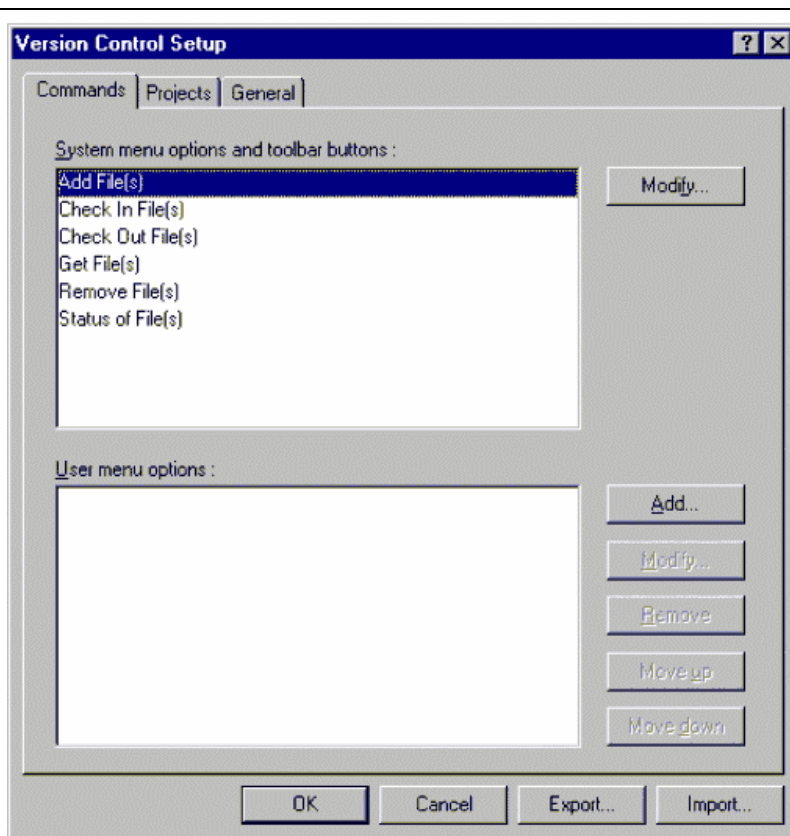
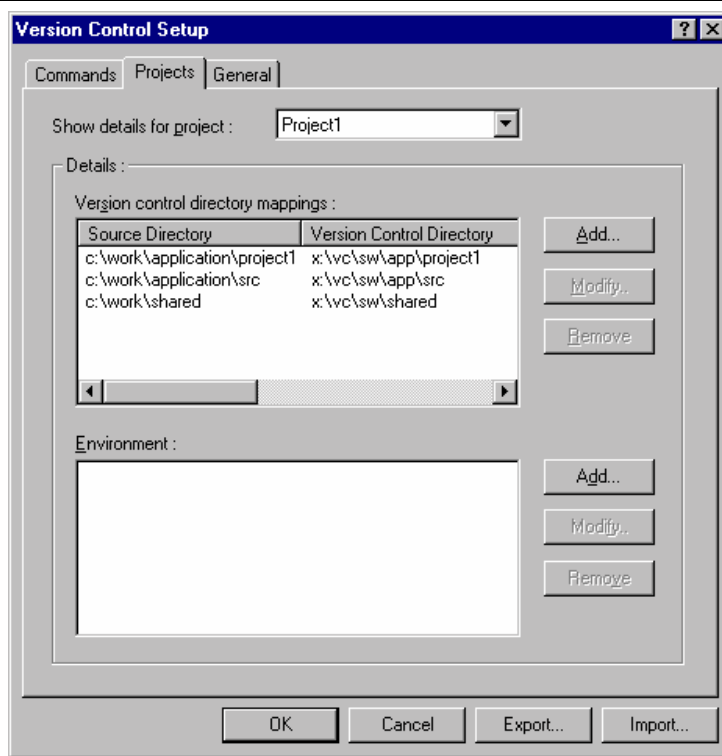

Figure 8.1: Version Control Setup Dialog Commands Tab
Figure 8.7: Version Control Setup Dialog Projects Tab
The custom version control support allows you the most flexibility in specifying how a version control system is to be used. To configure it, select **[Version Control->Configure...]**. The “Version Control Setup” dialog will be displayed (figure 8.1).
1. Select **[Version Control->Configure...]**. The dialog shown in figure 8.1 will be displayed.
1. Select [**Version Control->Configure...**]. The dialog shown in figure 8.1 will be displayed.
However, when executed, this command can only ever get the file `MAIN.C`. To resolve this problem, HEW uses a system of placeholders and directory mappings. The latter tell the HEW which "working" directories (i.e. where source files are being worked on) map to which "controlled" directories (i.e. where the source files are stored in the version control system). Mappings between these two directory systems can be specified via the "Projects" tab of the "Version Control Setup" dialog (figure 8.7).
1. Select [**Version Control->Configure...**]. The dialog shown in figure 8.1 will be displayed. Select the “Projects” tab, and the dialog shown in figure 8.7 will be displayed.
1. Select **[Version Control->Configure...]**. The dialog shown in figure 8.1 will be displayed. Select the “Projects” tab, the dialog shown in figure 8.7 will be displayed.
Select the “Projects” tab of the “Version Control Setup” dialog to view the current settings (figure 8.7).